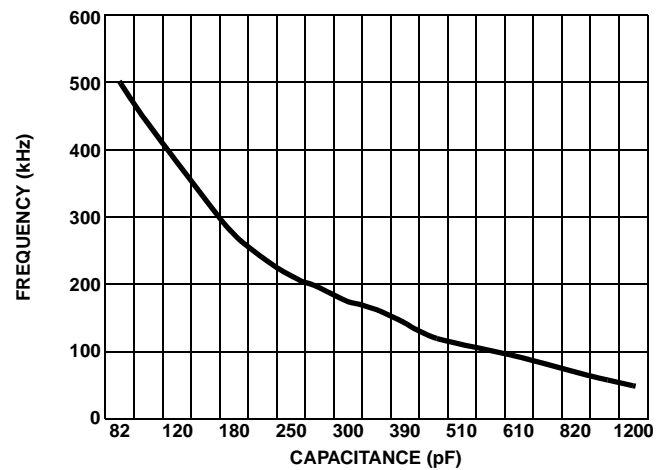

FIGURE 4. CAPACITANCE vs FREQUENCY
**CT** - This is the oscillator timing pin. The free-running frequency can be set by connecting a timing capacitor to this pin. The oscillator produces a sawtooth waveform with a programmable frequency range of 100kHz to 1.2MHz. Figure 4 may be used as a guideline in selecting the capacitor value required for a given frequency.
The ISL6401 has an internal sawtooth oscillator with a programmable frequency range of 100kHz to 1MHz, which can be programmed with a capacitor on the CT pin. (Please refer to Fig. 4 for the capacitance required for a given frequency.) With a maximum 50% duty cycle operation, the output switching frequency is half the oscillator frequency.